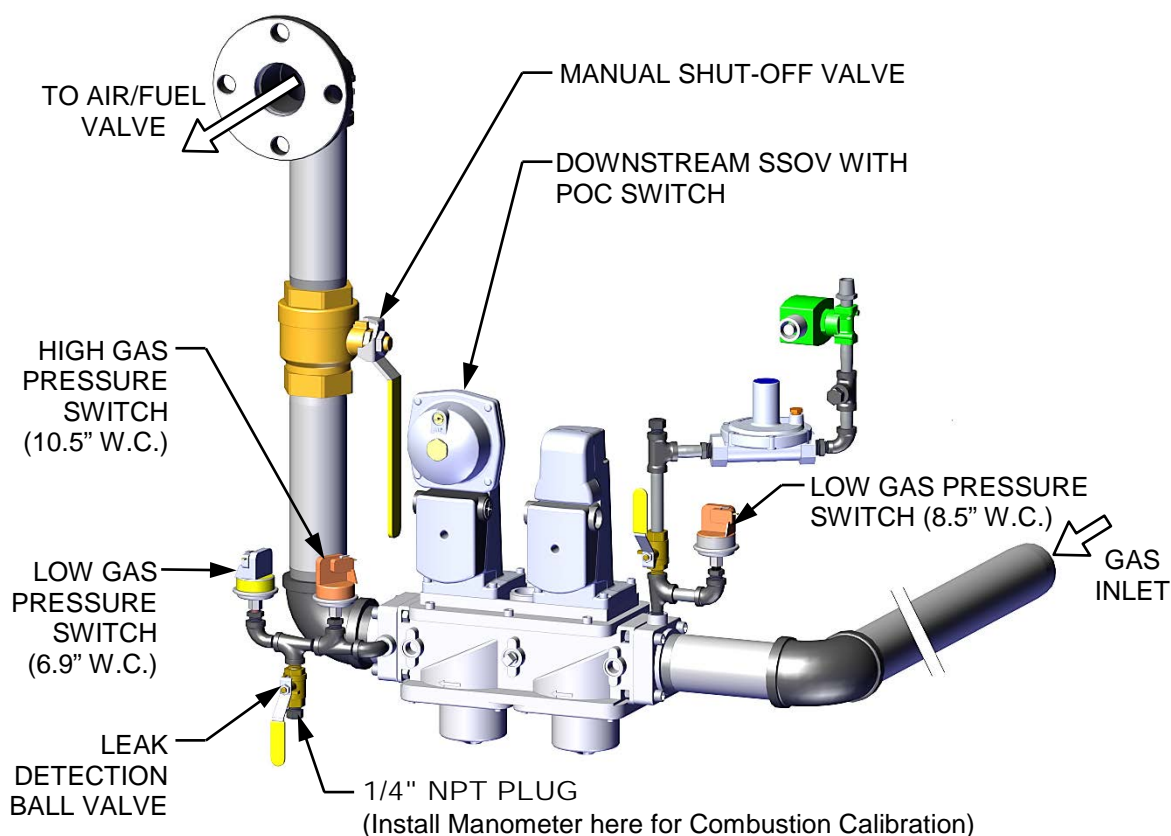

Figure 4-1: 1/4 Inch Gas Plug Location for Combustion Calibration
The gas supply manometer is installed at the downstream location shown in Figure 4-1.
3. To monitor the gas pressure on the downstream side of the SSOV during Combustion Calibration (section 4.4), remove the 1/4" NPT plug from the ball valve on the downstream side of the SSOV as shown in Figure 4-1.
The Pilot Burner should be inspected at the beginning of each heating season, or every 6 months for continuous operation units. It is constructed of high quality, heat resistant stainless steel materials, however some darkening of the metal is to be expected. No adjustment of the Pilot should be required, however the gas pressure downstream of the regulator should be checked if an ignition issue is encountered. Refer to Figure 4-1 for test port location.